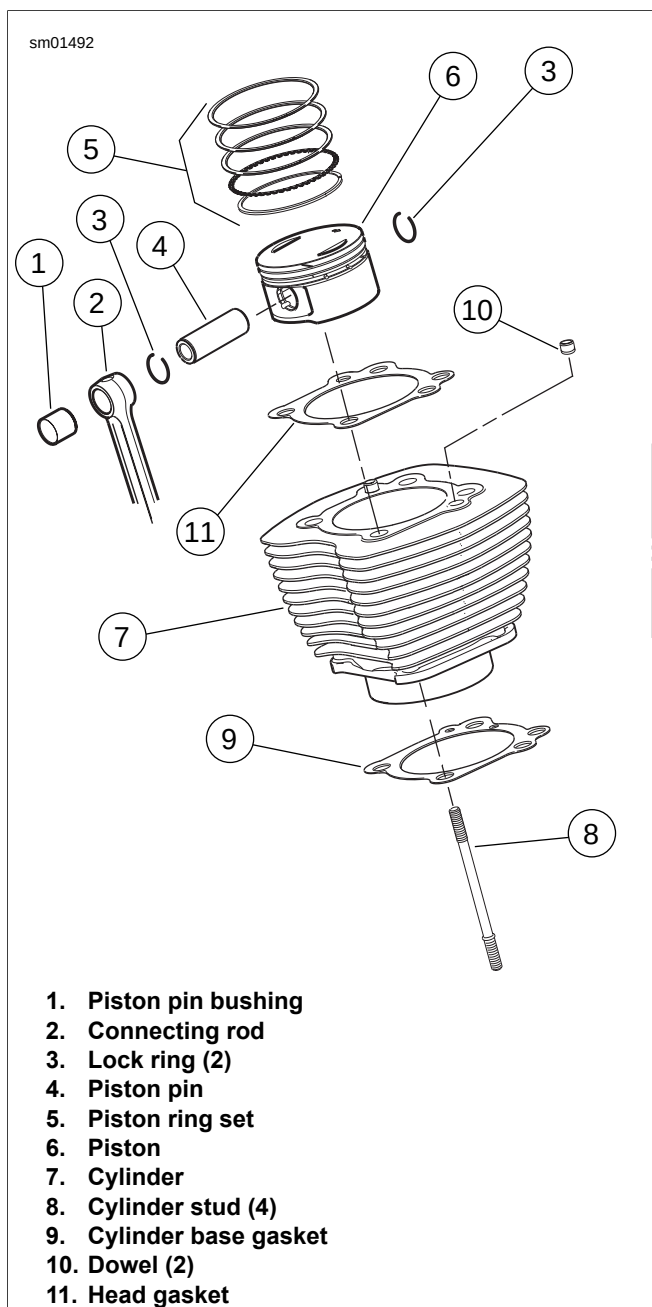

Figure 3-46. Cylinder and Piston
2. See Figure 3-46. Rotate crankshaft until piston (6) of cylinder being removed is at bottom of its stroke.